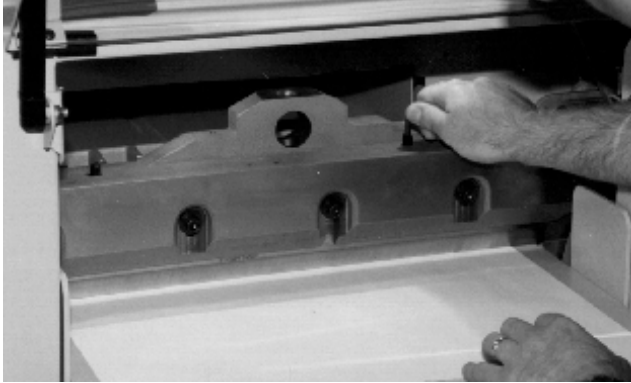

Figure 39
13. Turn the knife adjusters down evenly, a little at a time, until the knife cuts through the bottom sheet of paper the entire length of the cutting stick (Figure 39). Turning the screws down evenly prevents uneven wear on the knife and cutting stick.